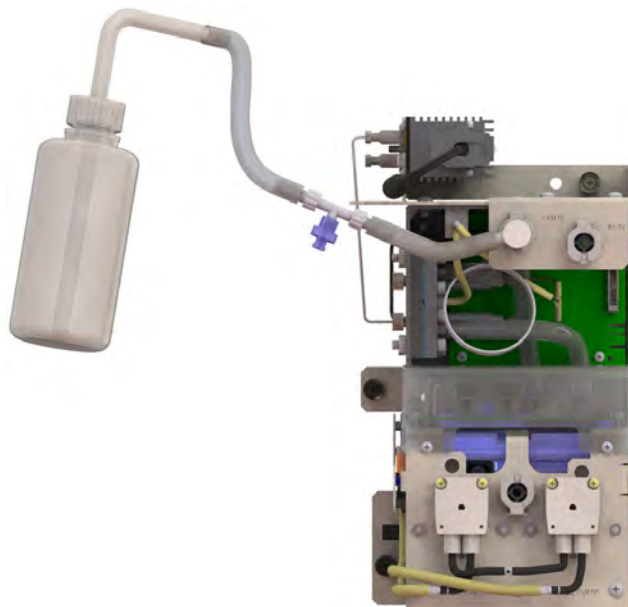

Figure 84: Filling the DI Pump
3. Insert the elbow-fitting end of the filling fixture into the *Prime* outlet. (Figure 84).